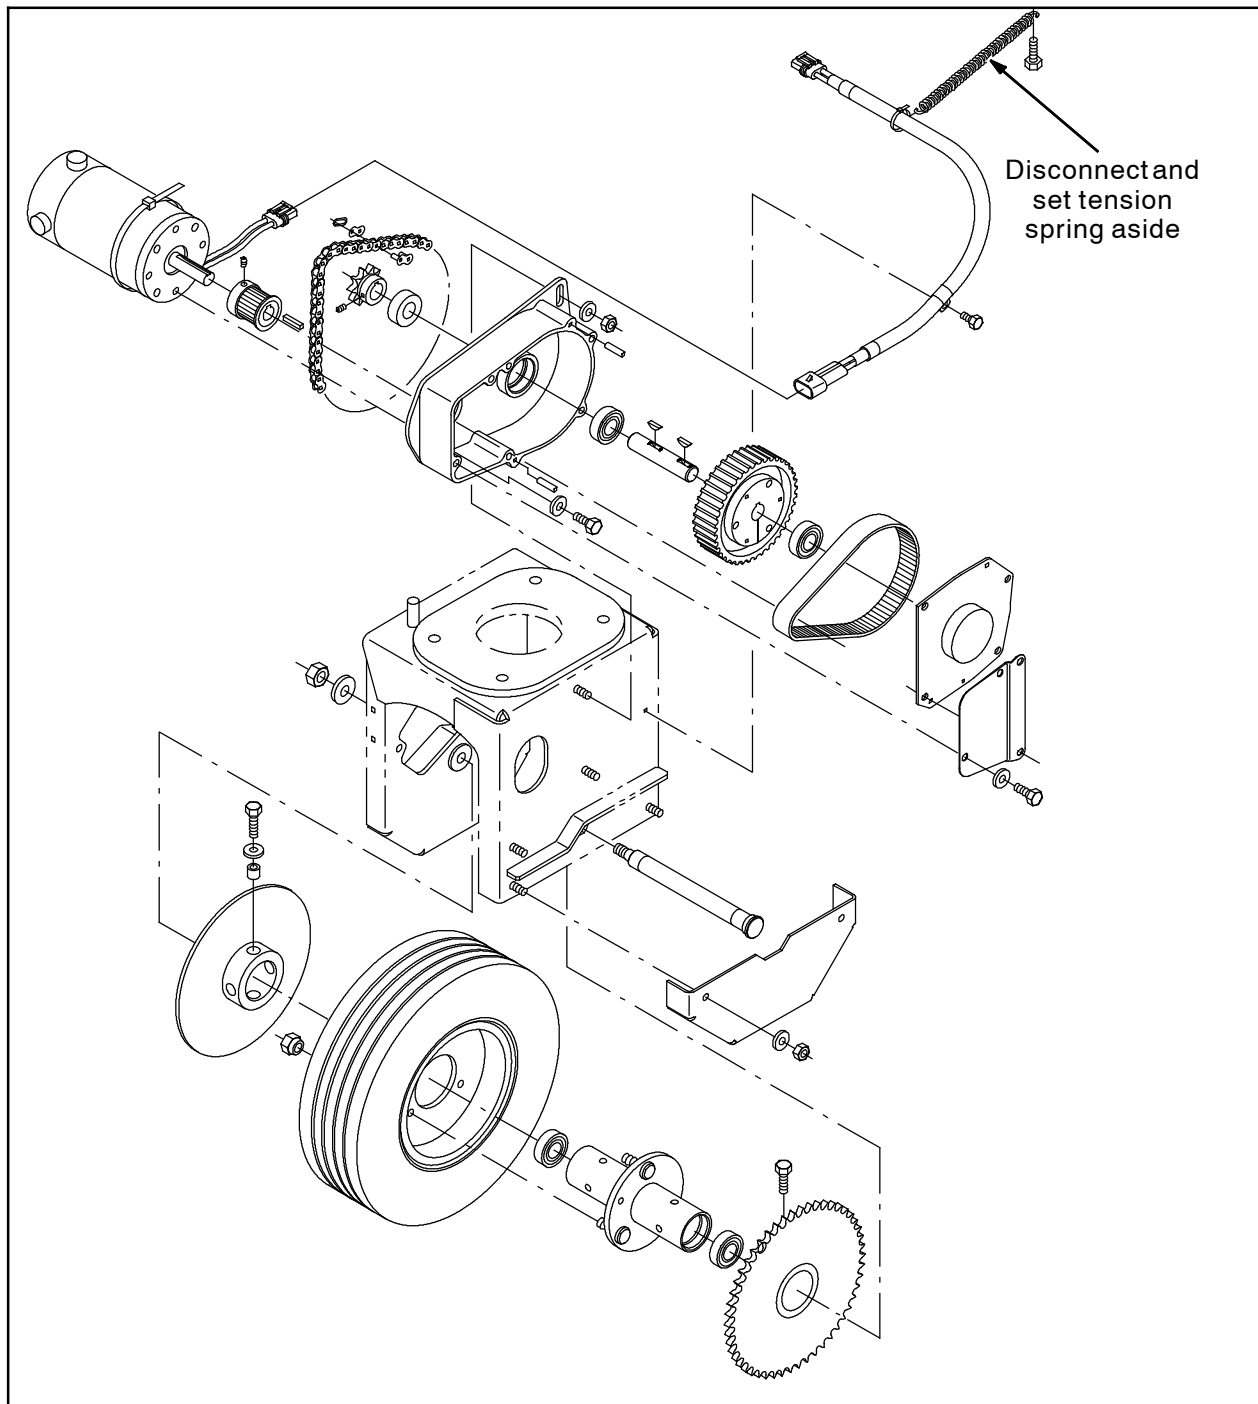

FIG. 3
5. Disconnect the tension spring from the motor wire harness. (Fig. 3)